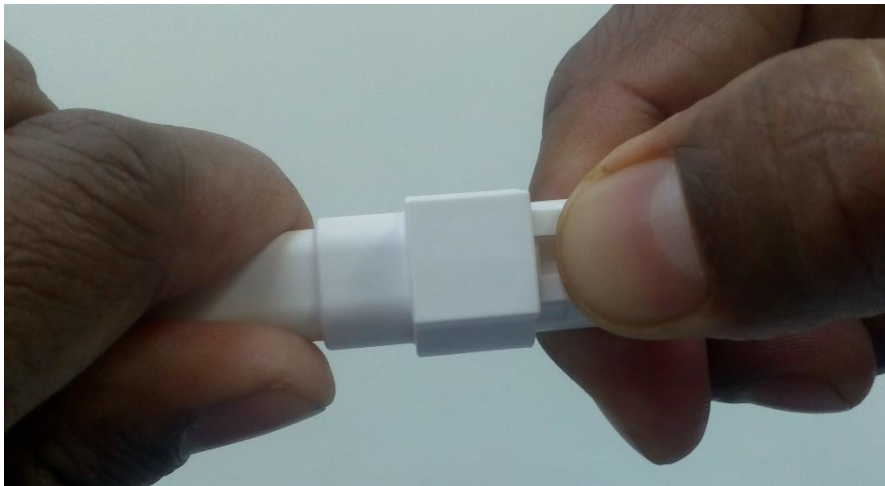

Figure 18
1. Press the latch lever on receptacle assembly to disengage the latch and pull the plug assembly as shown in figure 18 and figure 19.